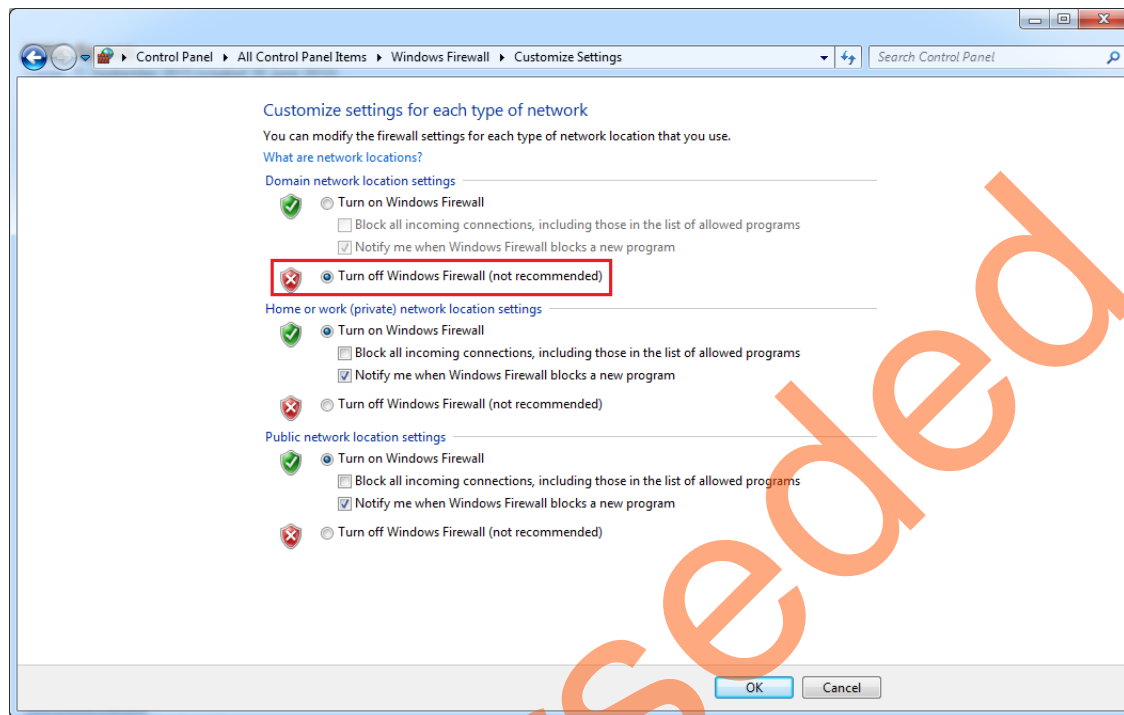

Figure 24 • Windows Firewall Settings
2. Navigate to **Control Panel > Windows Firewall** and click **Turn Windows Firewall On or Off**. Select **Turn off Windows Firewall** under Domain network location settings as shown in Figure 24.